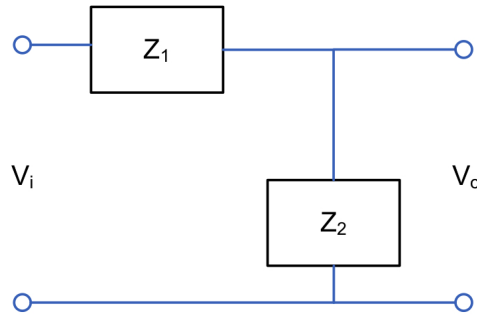

Figure 3.2: Generic Voltage Divider Circuit. V_i is the input voltage and V_o is the output voltage
- Use the color-coded resistors given to you to build a voltage divider circuit (as shown in Figure 3.2), which reduces by half the amplitude of the voltage waveform generated by the microcontroller. For obtaining the resistance in ohms from the color-code, you may refer to: <http://www.hobby-hour.com/electronics/resistorcalculator.php>. Observe the input and output waveforms on the two-channel oscilloscope.
- Insert the given combination of resistor (Z_1) and capacitor (Z_2) as shown in Figure 3.2.